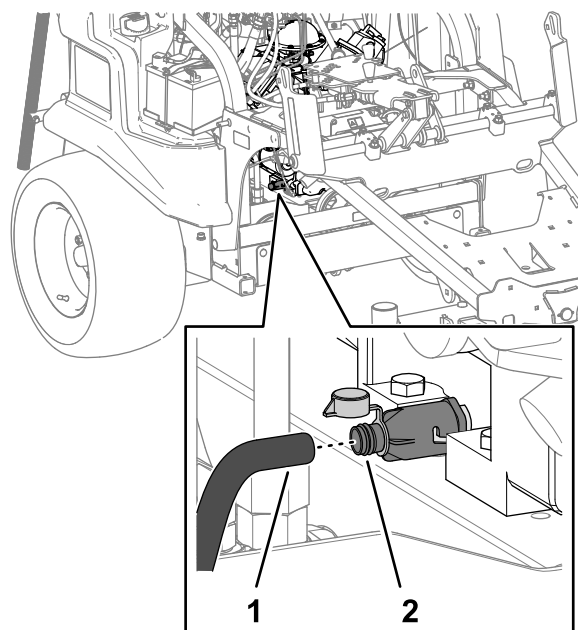

Figure 77
4. Remove the cap from the oil-drain valve, assemble a hose 13 mm (1/2 inch) onto the barbed fitting of the valve, and place the other end of the hose into a drain pan (Figure 77).
5. Open the drain valve by rotate it counterclockwise slightly and pulling it outward (Figure 77).